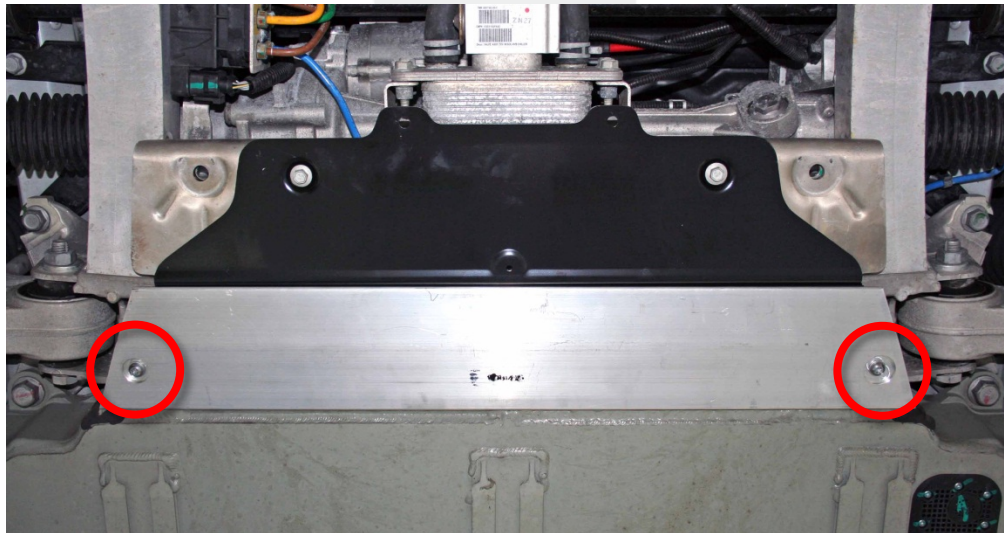

Figure 14
- Position the bash plate extrusion in place beneath the front subframe and hand-tighten the bolts (1037743-00-A) (Figure 14).